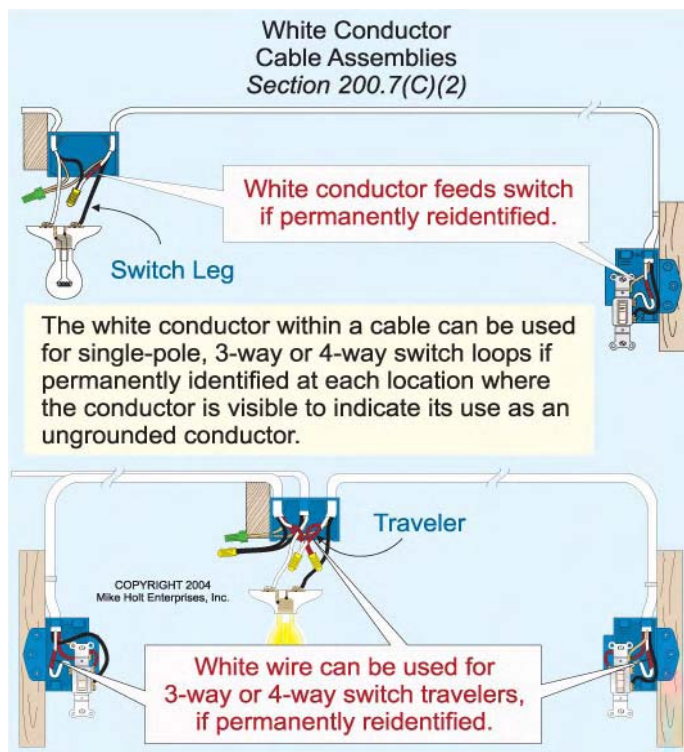

Figure 200-12
(2) Switches. The white conductor within a cable can be used for single-pole, 3-way or 4-way switch loops if permanently identified at each location where the conductor is visible to indicate its use as an ungrounded conductor. **Figure 200-12**